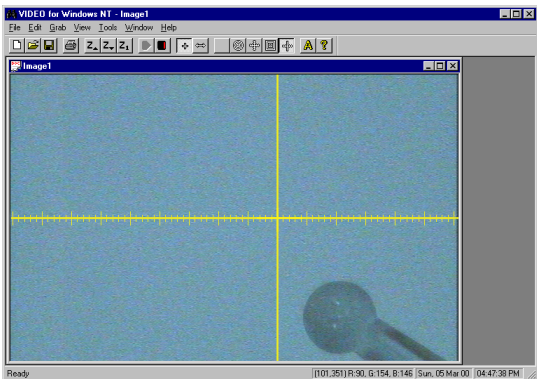

Figure 4-22. Real-time image of the crystal
2. Click on the Video window to display the real-time image of the crystal (Figure 4-22).